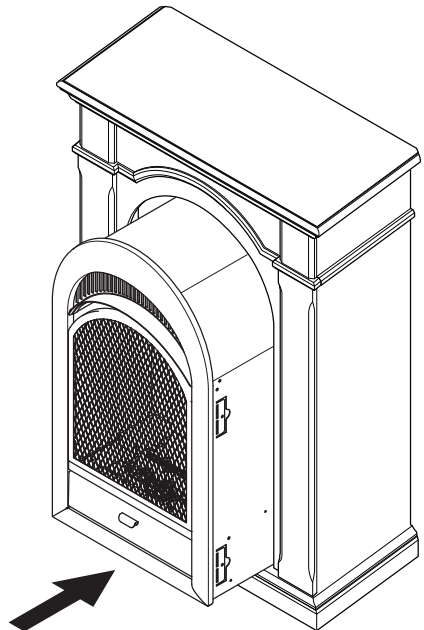

Figure 9 - Installing Fireplace Insert Into Mantel
1. Carefully push the fireplace insert into the mantel from the front as shown in Figure 9.